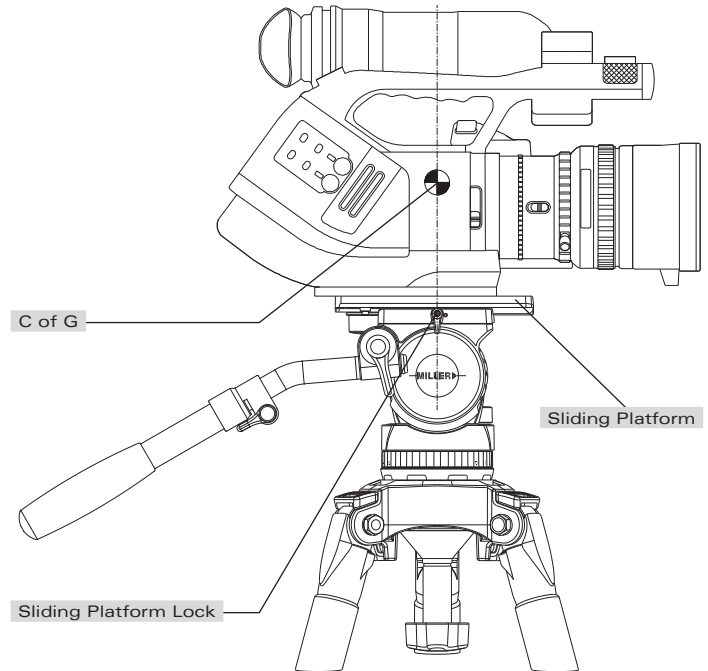

Fig. 5
- 2.6 Release the SLIDING PLATFORM LOCK and slide the SLIDING PLATFORM such that the camera's C of G is directly above the centre axis of the Fluid Head and tighten the SLIDING PLATFORM LOCK (fig.5). If this can not be achieved then reposition the CAMERA PLATE on the Camera or the QUICK RELEASE TRIPOD ADAPTOR - step 2.4. This will ensure that the system has maximum stability.